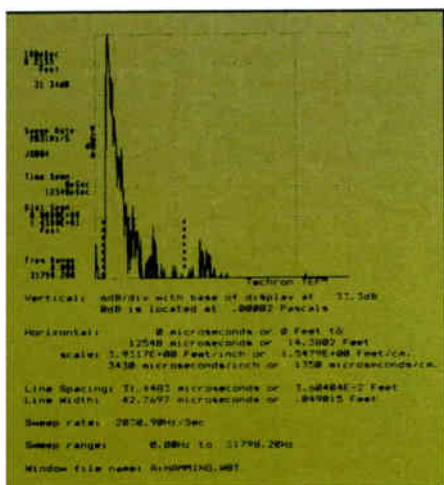
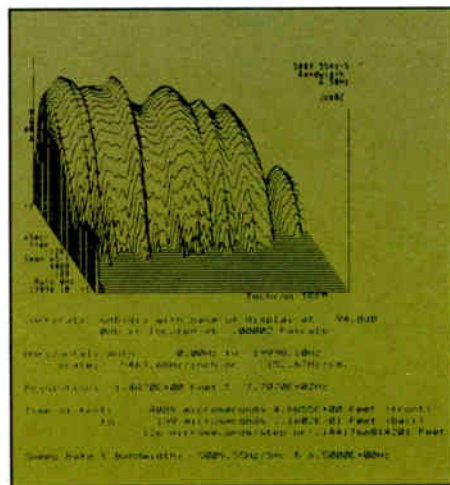

Figure 1. Energy Time Curve of speaker showing direct sound decay and room reflections.
Figure 2. 3-D frequency response curve for the time span marked in figure 1.
**T**his month, we continue with our look at the single-driver, powered loudspeaker (the Anchor AN-1000) we began measuring in part one. Figure 1 shows the ETC of that speaker, similar to the ETC we examined last month, except that the baseline has been raised to show the arrival times of the reflections of objects next to the loudspeaker.
Having identified the major sound occurrences on the ETC, I then selected the time span within which I wanted to see the frequency response. The time span chosen is indicated by the asterisk lines on figure 1. The frequency response plot, as a 3-D display, is shown in figure 2. Figure 2 plots the decay of energy within a range of frequencies (0 to 20 kHz) and within the chosen time span for direct sound only, since the first reflection, as seen in the ETC, is hidden under the baseline of the 3-D display. (The data for that reflection is not lost, and can, if needed be raised above the baseline.) However, by extending the time span to include the reflection, I was able to obtain a good balance of time and frequency resolution for the 3-D display.